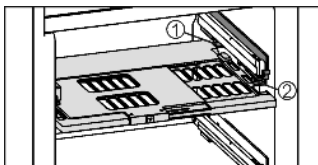

Fig. 32
- ▶ To insert the humidity control plate: Insert the cover mouldings of the plate into the rear holder Fig. 32 (1) from underneath and engage them in the holder Fig. 32 (2) at the front.